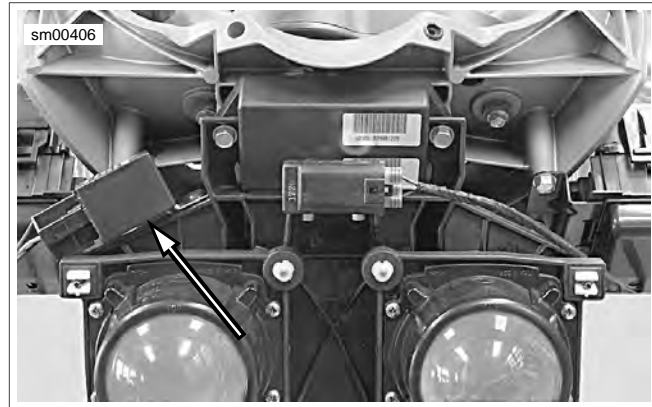

Figure 6-44. Turn Signal Flasher: Firebolt (Typical)
2. See Figure 6-44 (Firebolt), Figure 6-45 (Lightning) or Figure 6-46 (Ulysses). Remove fastener securing turn signal flasher to headlight support bracket (Firebolt) or front module (Lightning and Ulysses).
1. See Figure 6-44 (Firebolt), Figure 6-45 (Lightning) or Figure 6-46 (Ulysses). Attach 5-place connector [30] to flasher.